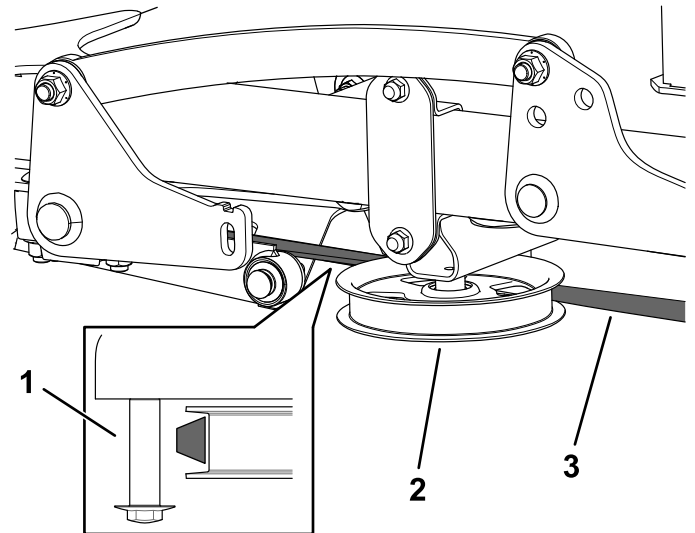

Figure 7
4. Route the belt to the idler pulley (Figure 7).
**Important:** Ensure that the wide side of the belt contacts the pulley as shown in Figure 7. Use the shoulder bolt as a guide for the belt.